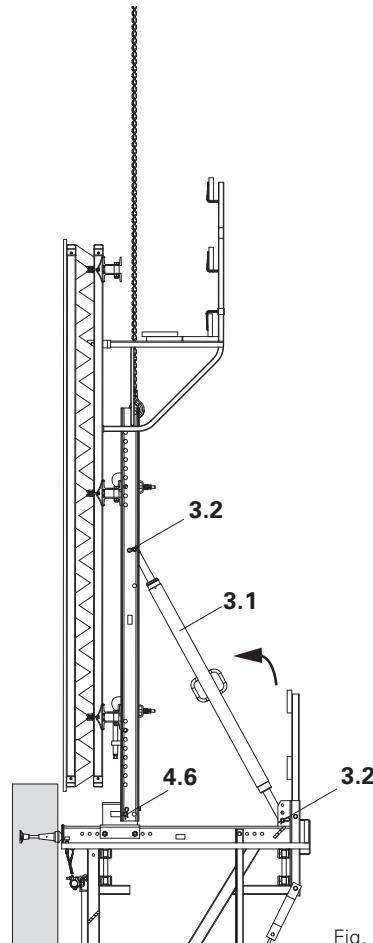

Fig. B2.05c
4. Fix strongback to the adjusting unit by means of bolts Ø 25 x 180 and cotter pins (4.6). Standard case: use those holes in the strongback facing the wall. (Fig. B2.05c)
5. Fix Adjustable Brace 164-224 (3.1) to the bracket using bolts and cotter pins (3.2). Spindle to approx. length and attach to strongback. (Fig. B2.05c)